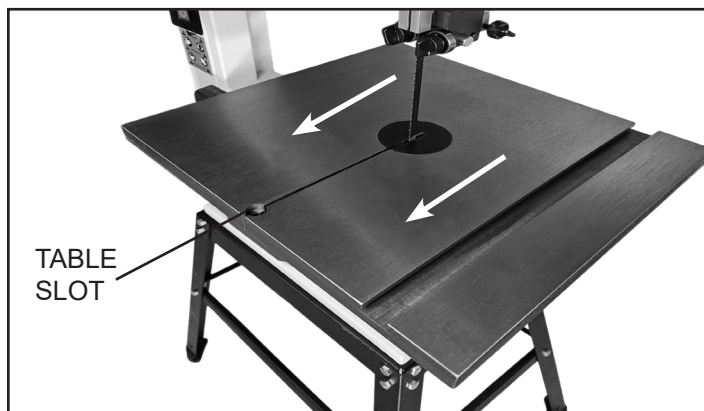

FIGURE 1
1. Mount the table (Part #124) in place on the trunnion. Do this from the rear of the machine, so that it is easier to fit the pre-installed blade through the slot in the table. FIG. 1.